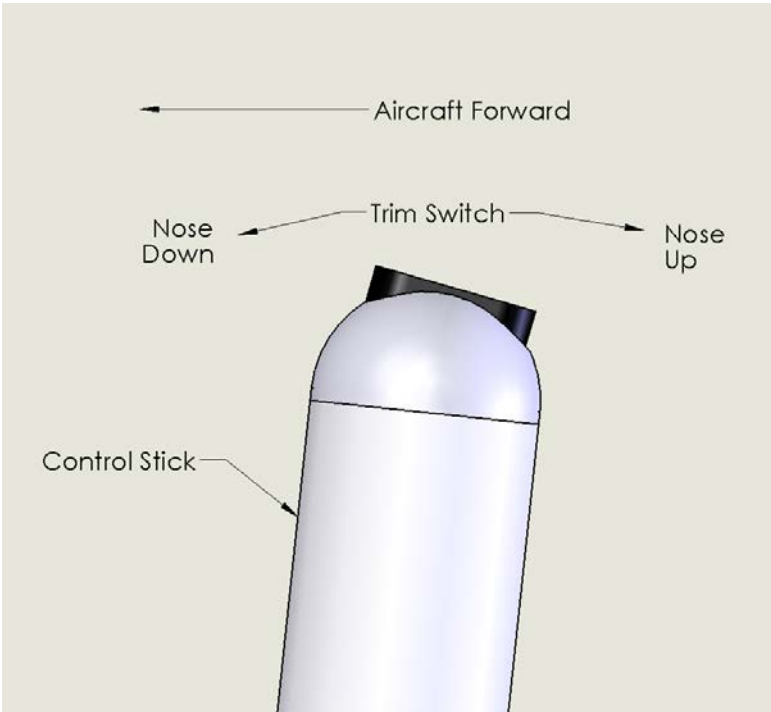

Figure 1 Switches on control sticks
- A trim switch on top of the pilot's control stick (Figure 1)
- A trim switch on top of the aft occupants control stick (Figure 1)